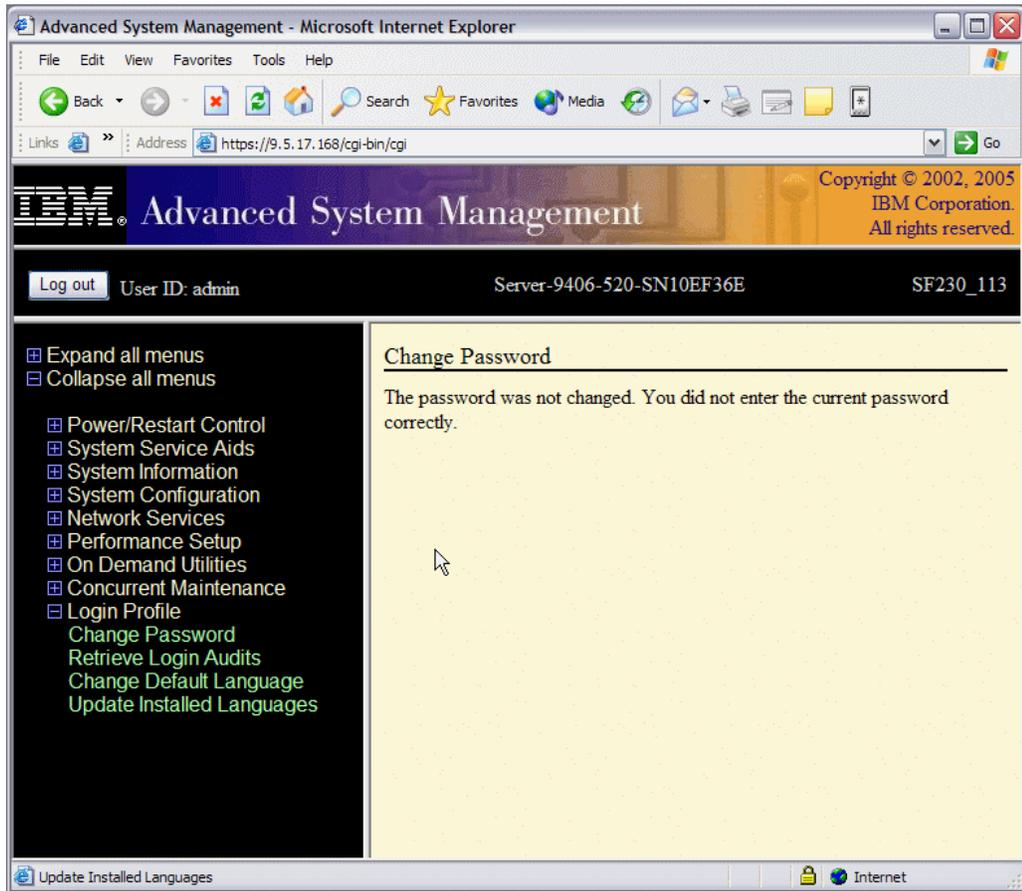

Figure 15-6 Wrong current password notification from ASMI
5. If the admin password was not entered correctly, ASMI will notify the failure and the HMC Access password is not changed as shown in Figure 15-6.